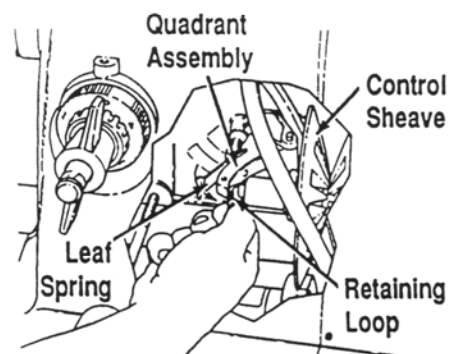

Fig. 2
5. Detach the retaining loop from the speed changer. Look inside the headstock through the access hole opening. On the end of the control sheave is a retaining loop hooked over a leaf spring. The leaf spring is attached to the quadrant assembly, (part of the speed changing mechanism). Depress the leaf spring and pull the retaining loop toward you, off the spring. See Fig. 2.